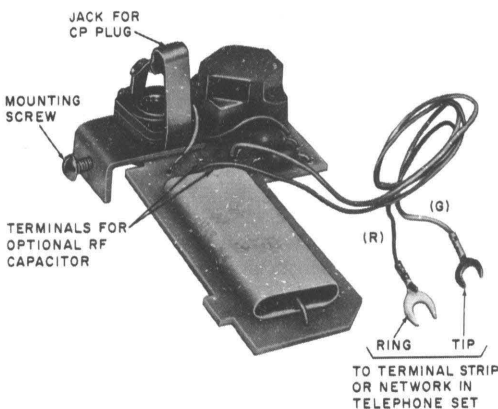

Fig. 1—32A Voice Coupler
**1.03** The 32A voice coupler (Fig. 1) consists of a printed wiring board and components, phone jack, and a mounting bracket with mounting screw. The coupler is part of the "D" Kit of Parts ordered for the type of telephone set to be modified.